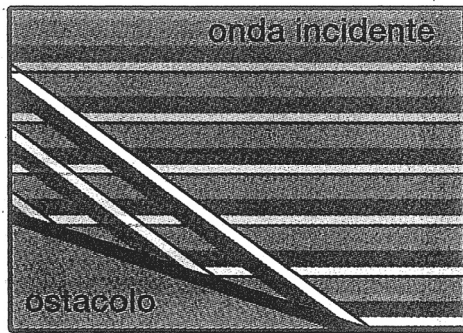
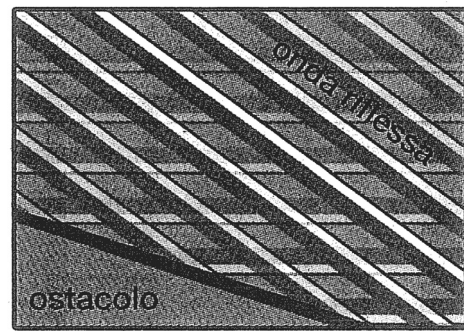

Fig. 11
Fig. 12
This phenomenon is shown schematically in Figure 11. To achieve this result, apply the dipper for parallel waves to the vibrator and put the long barrier (4) in the tank, in an inclined position. On the screen, you will observe the intersection of incident and reflected waves. (Fig. 12).